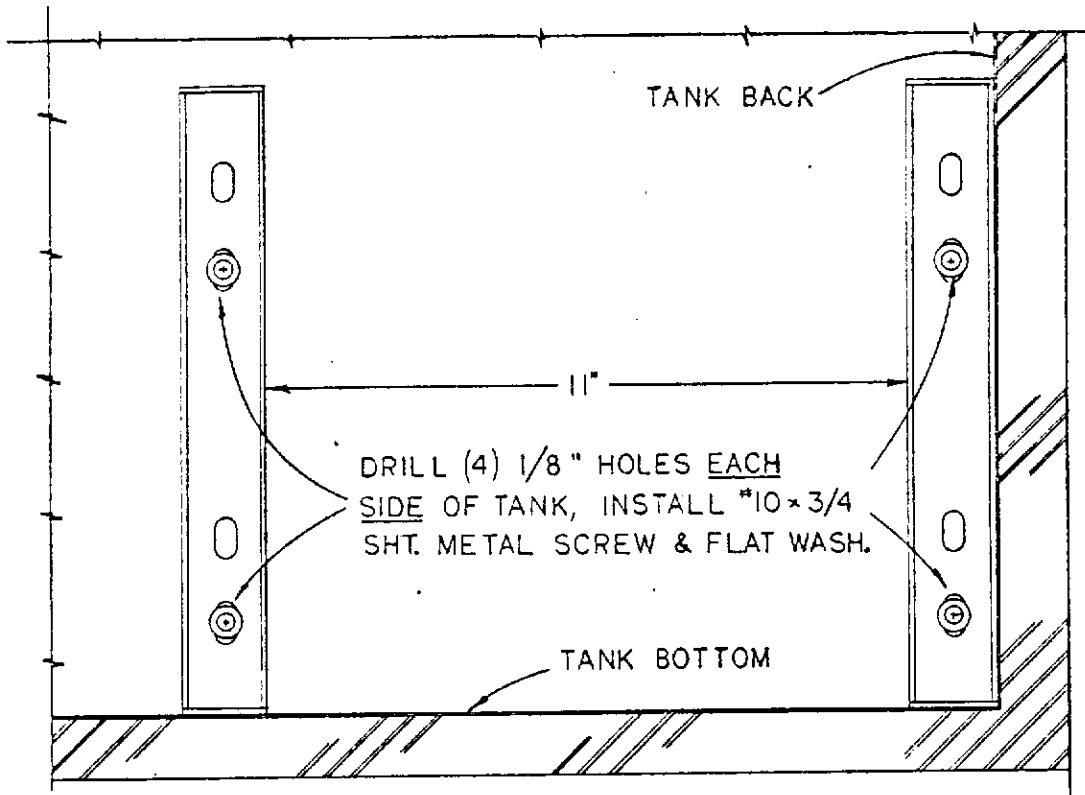
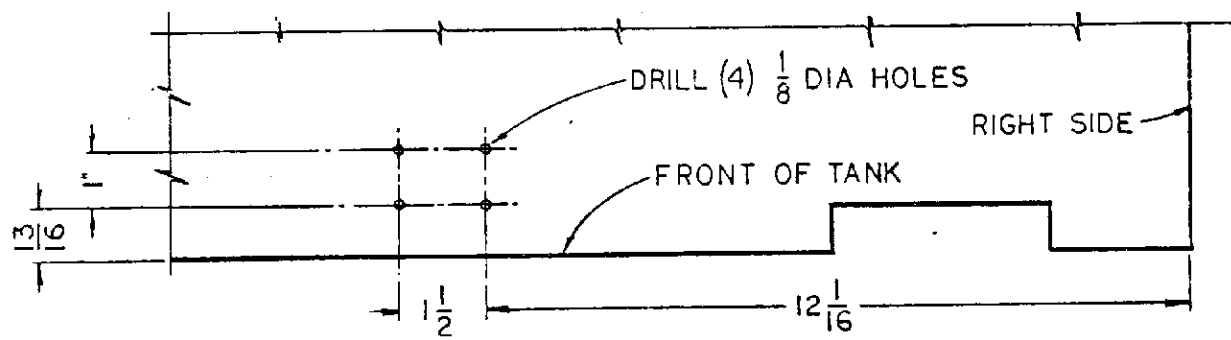
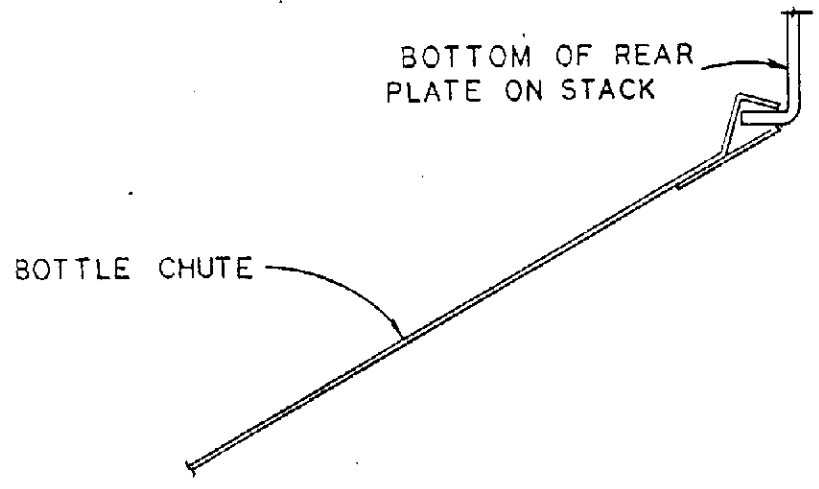

FIG. 1
FIG. 2
FIG. 3
1. Remove Serpentine delivery chute by removing two (2) wing nuts, one (1) at each end of chute.
2. Remove two (2) chute mounting brackets.
3. Unplug vend mechanism wiring harness from lower left hand corner of cabinet. Release clamps holding harness along bottom of cabinet. Remove plate securing harness thru front of cabinet. Save this plate and the two (2) screws securing it.
4. Remove either one (1) or two (2) screws each side securing the vend stack to sides of tank.
6. Remove two (2) stack supports, held to tank sides with four (4) screws each at bottom of tank. It will be necessary to loosen the fan housing assembly to gain access to these screws. Leave fan loose until step 9 is complete.
7. Remove temperature control from its mounting bracket by pulling off knob and removing two (2) screws. Save the two (2) screws. Remove temperature control mounting bracket.
8. Unplug and remove relay box from inside of inner door. Save the four (4) mounting screws.
9. Install the four (4) Adaptable stack supports by drilling two (2) 1/8 (.125) holes in tank for each support. Locate stack supports as shown in Fig. 1. The stack support with the added welded plate, for temperature control, is located at the front right side. Install stack supports using eight (8) #10 x 3/4 sheet metal screws and #10 flat washers. Later venders have tapped holes in the locations specified in Fig. 1. Should your particular vender have these tapped holes, assemble the four (4) stack supports to the tank using the #10-32 x 5/8 machine
- screws and the large dome type #10 lockwasher. Reassemble temperature control with two (2) screws and replace knob. Secure fan housing previously loosened.
10. Install lower chute bracket, B147,074,400.73 with four (4) #8 x 1/2 sheet metal screws into four (4) pre-drilled holes in tank bottom near the front center of tank. (See Fig. 2 for hole location and size if the holes are not pre-drilled on this particular vender.)
11. Place the new Adaptable vend stack on the four (4) supports. Stack must be pushed to back of tank.
12. At the back of the stack in columns 2 and 4 are two (2) hat sections. Drill two (2) 1/8 dia. holes in the back of the tank using the top holes in the hat sections as a guide. Install two (2) #10 x 3/4 sheet metal screws to secure stack to back of tank.
13. At the top front of the stack are two (2) angles. Loosen the screw securing these angles to the stack. Push the angles tightly against the tank top and tighten these screws. Using the hole in the angles as a guide, drill two (2) 1/8 dia. holes in the tank top. Install two (2) #10 x 3/4 sheet metal screws to secure stack to top of tank.
14. Route the vend mechanism wiring harness thru the opening at front bottom of cabinet. Replace plate removed in step 3, to secure harness. Press the permagum around cable for seal. Route harness thru two (2) cable clamps and plug into mating connectors at lower left hand corner of cabinet. Two (2) 3/4" cable clamps are included in this kit. Use these to hold the vend mechanism harness to the right side of the tank. Secure clamps to tank wall with #10 x 3/4 sheet metal screws. Drill a 1/8 dia. hole for the screws.
15. Fig. 3 shows how the bottle chute mates with the rear plate of the mechanism. The elongated slot in the bracket on the bottle chute goes over the threaded stud on the lower chute bracket installed in step 10. Secure the chute to the lower chute bracket with the large #10 lockwasher and the #10 hex nut. Before tightening nut, close the door. Look thru discharge opening in door and adjust chute so that it is 1/8" (max.) above discharge port in door. Open door and tighten #10 hex nut. To the left of this nut is a hole in the bracket attached to the chute. Using this hole as a guide drill a 9/64 hole thru the chute bracket attached to the tank bottom and install a #8 x 1/2 sheet metal screw.